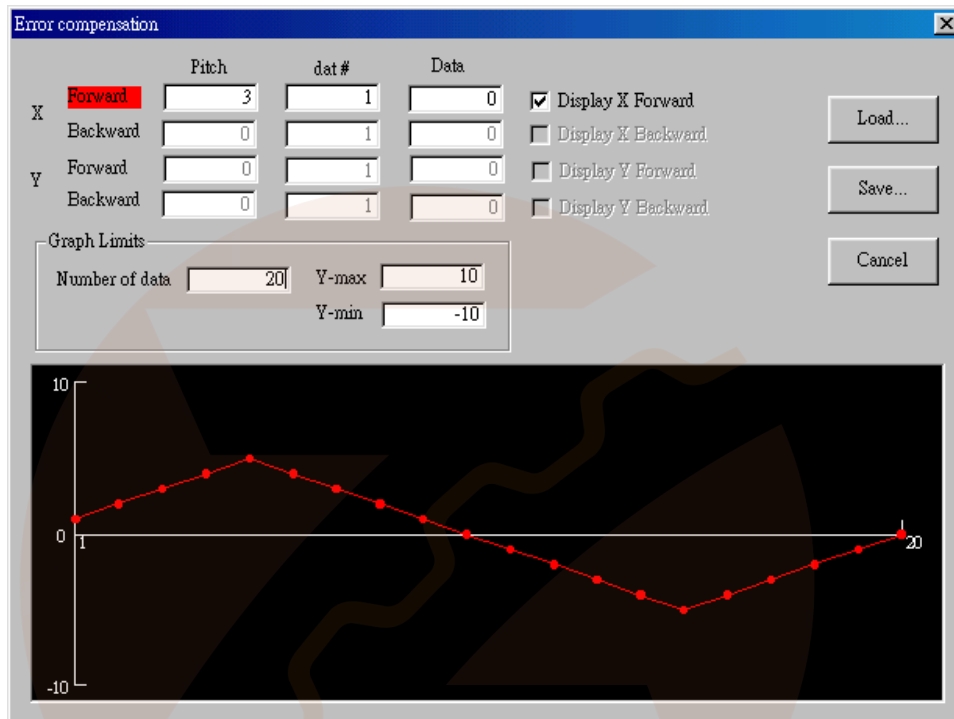

Fig. 34 Error compensated table
6. Click open to load data and it shows like Fig.34
There is a skill in Fig.34. When clicking and dragging with mouse in the graphic filed, in the above area of window, the data# changes according to mouse movement.